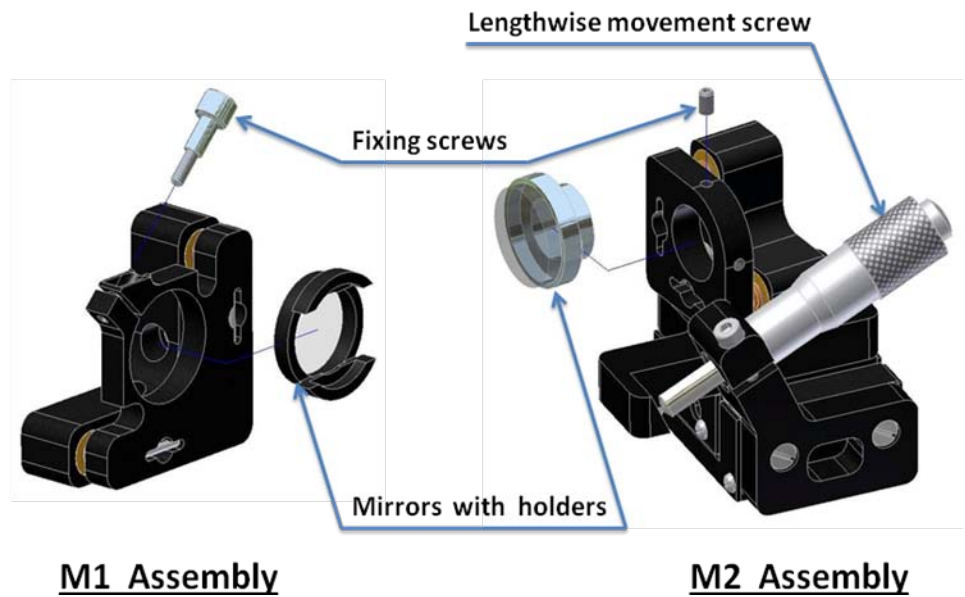

Fig. 6 M1 and M2 assembly
9. *Remove M1 and M2 mirrors with holders from their mounts. (**Fig. 6**)*
19. Install M1 mirror with the holder to its mount (**Fig. 6**).